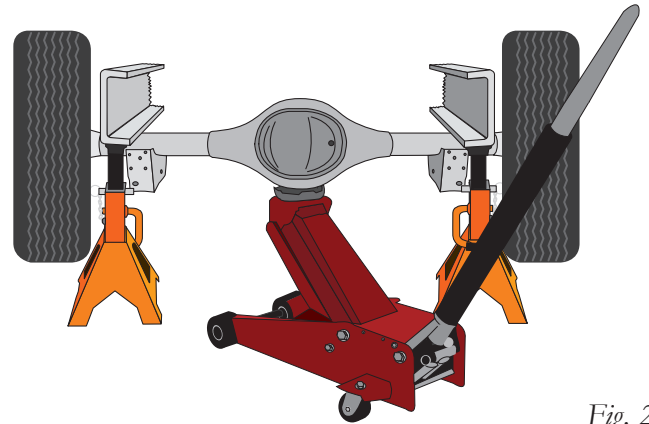

Fig. 2
1. Lift the vehicle and support the frame with safety stands. Drop the axle down low enough to later set the air springs into position between the frame and axle (Fig. 2).